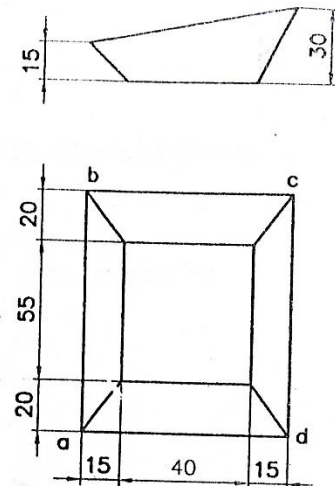

Figure 2.
6. Draw the development of a small tray as shown in Fig.2